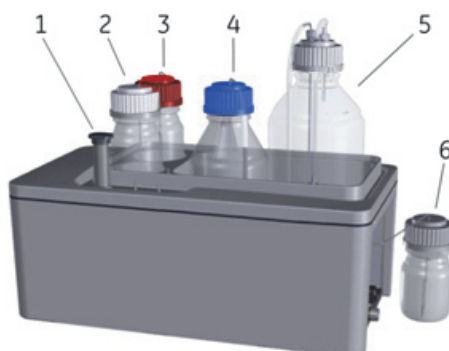

Figure 3. The wash module in MicroCal PEAQ-ITC system.
3. Make sure the wash station bottles are filled to at least 50% with the appropriate solutions (distilled water, methanol and detergent solution, i.e. 20% Contrad 70 or 14% Decon 90) and that the waste and overflow bottles are empty (see Figure 3 below).